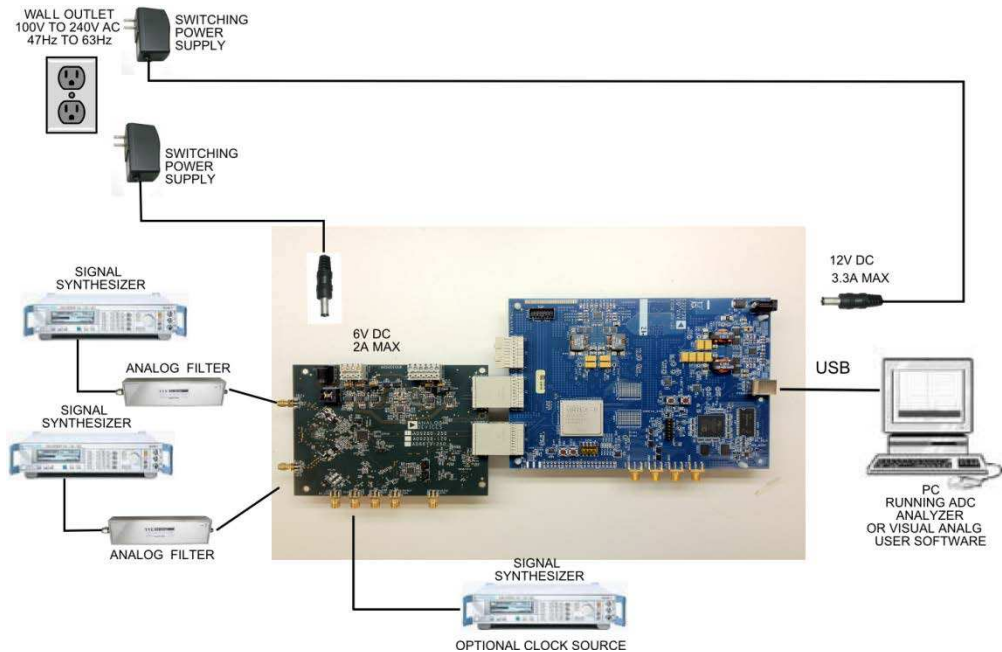

Figure 1: AD9250 Evaluation Board with HSC-ADC-EVALDZ Data Capture Board
1. Connect the AD9250 Customer evaluation board and the HSC-ADC-EVALDZ board together as shown in Figure 1.
9. Next open the SPI Controller software. If prompted for a configuration file, select the configuration file titled AD9250_14Bit_250MSpiR03.cfg. If not, check the title bar of the window to see which configuration is loaded. If necessary, choose “Cfg Open” from the “File” menu and select the configuration files named above. Note that the CHIP ID(1) field may be filled whether the correct SPI Controller configuration file is loaded or not.